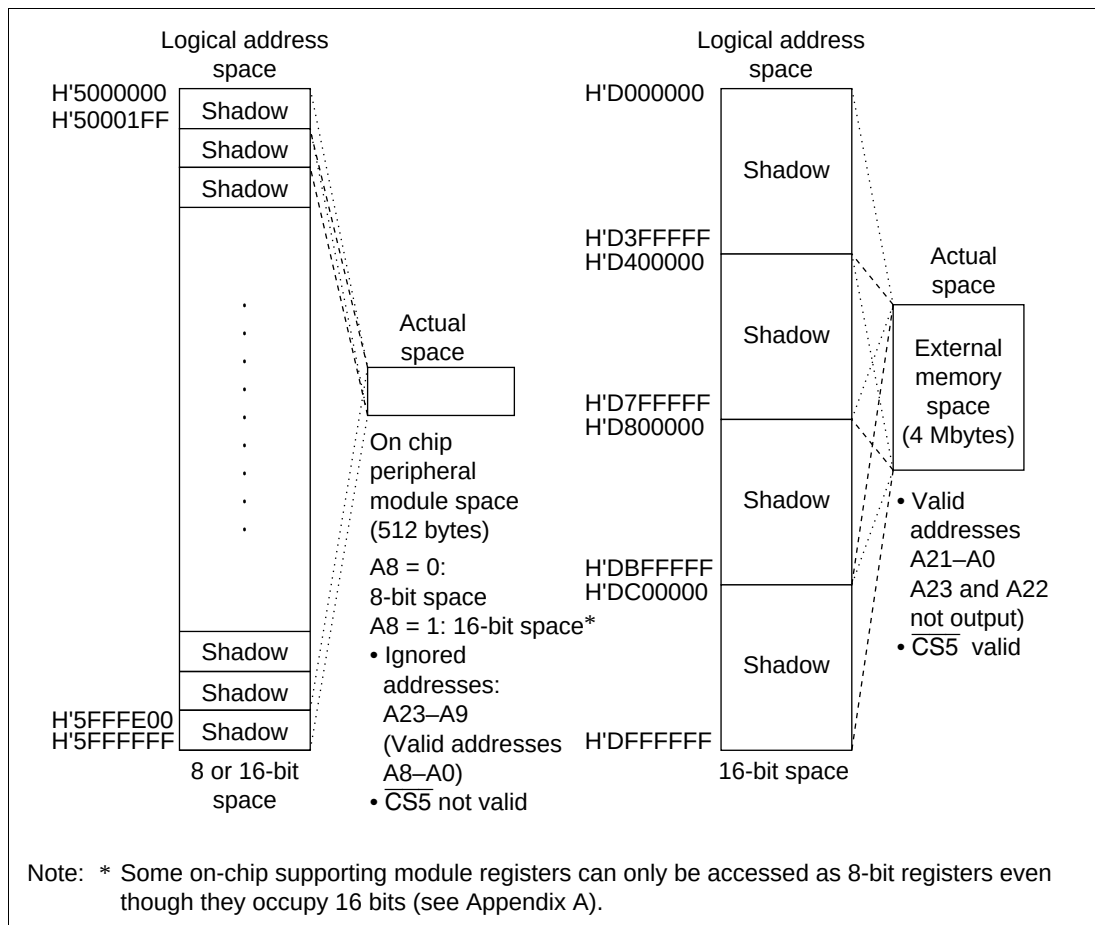

**Figure 8.8 Memory Map of Area 5**
**Area 5:** Area 5 is an area with address bits A26–A24 set to 101 and an address range of H'5000000–H'5FFFFFF and H'D000000–H'DFFFFFF. Figure 8.8 shows a memory map of area 5.